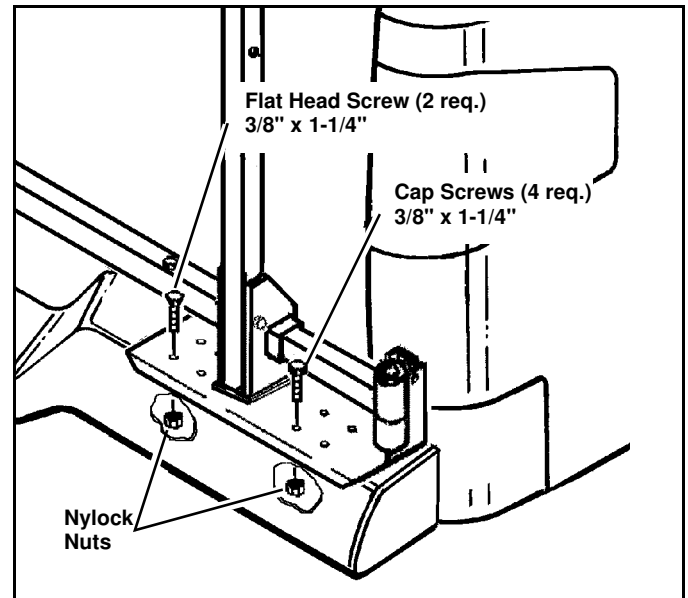

Figure 1-11
16. Secure the Pivot and Latch Assemblies to the vehicle bumper with four (4) 3/8" x 1-1/4" Cap Screws (#98009034) and two (2) 3/8" x 1-1/4" Flat Head Screws (#98100163) and Nylock Nuts provided. (See Figure 1-11)